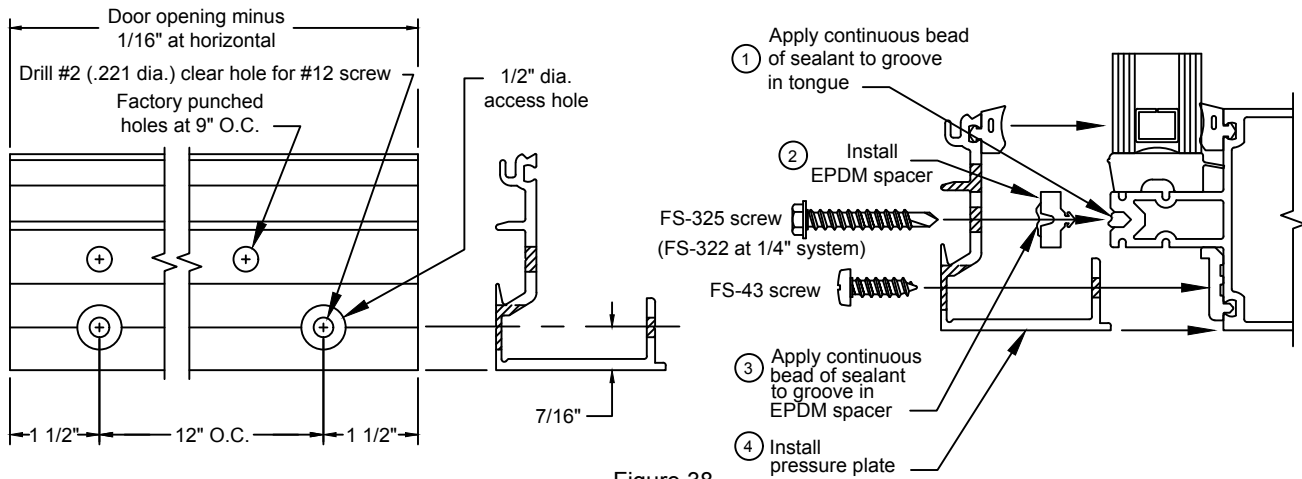

Figure 38
- C.3.4 Apply continuous seal to horizontal tongue before installing horizontal pressure plate. Seal ends of horizontal pressure plate to vertical pressure plates. SEE FIGURE 38, page 38.